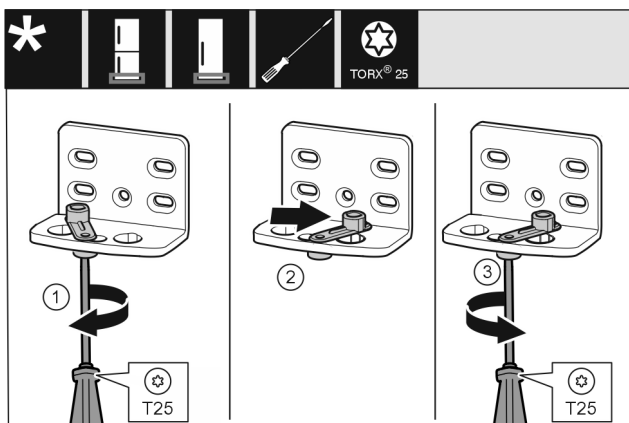

Fig. 14
- Use screwdriver to loosen the screw Fig. 14 (1).
- Lift the door closing aid Fig. 14 (2) and turn 90° clockwise in the hole.
- Tighten screw Fig. 14 (3) with screwdriver.